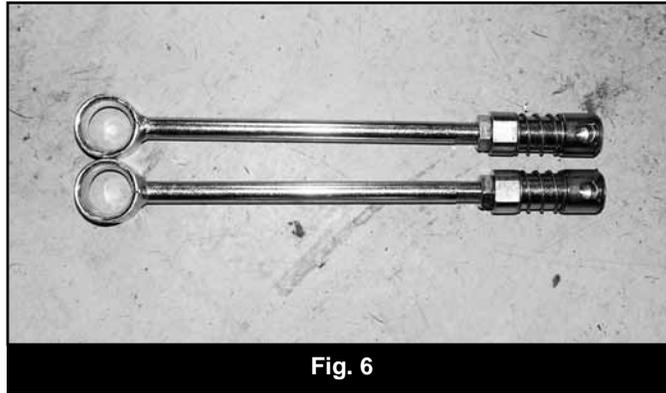

Fig. 6
32. Install the provided  $\frac{1}{2}$ " jam nut then the spring loaded disconnect assembly on the threaded end of the new link. Thread the nut and assembly all the way on to the link (Fig 6 ).